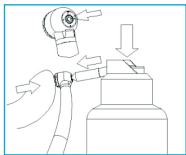

Fig. 9-1
- Use lubricant that is specified for the medical device to clean and lubricate the interior of the medical device: put the nozzle insert into the tube of the spray can and then insert the nozzle into the drive air tube of the medical device (Fig. 9-1), press the spray button for 2 – 3 seconds until the lubricant comes out from the head.